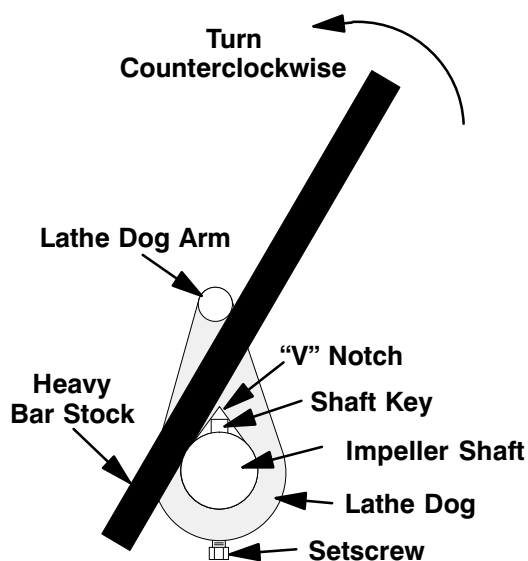

Figure 9. Loosening Impeller
With the impeller rotation still blocked, see Figure 9 and use a long piece of heavy bar stock to pry against the arm of the lathe dog in a counterclockwise direction (when facing the drive end of the shaft). **Use caution** not to damage the shaft or keyway. When the impeller breaks loose, remove the lathe dog, key and wood block.
*When properly installed to the dimension shown in Figure 9, the key (28, Figure 4) **will not** extend fully through the bushing. This is an acceptable fit for this application.*